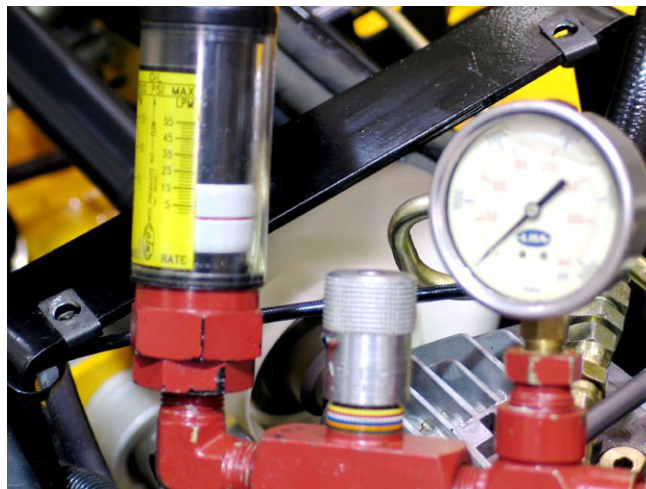

Figure 5.16
5.16. With the engine at a minimum speed of 1,200 RPM, fluid flow of roughly 2 GPM (7.60 LPM) should register on the meter. See Figure 5.16.